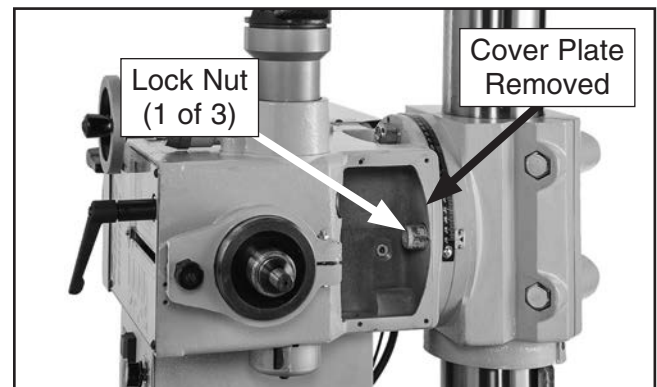

Figure 41. Cover plate removed from bottom of headstock (headstock tilted 90° for clarity).
3. Remove cover plate from bottom of headstock (see **Figure 41**).
4. Loosen three lock nuts (one on each side of head and one inside head) that secure head tilt setting (see **Figures 41–40**).